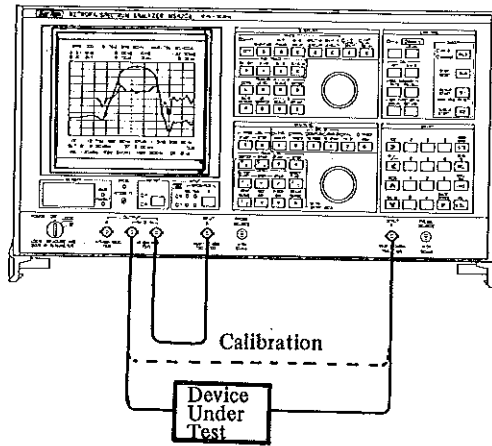

Fig. 3.3 Magnitude Measurement Connections
- 8 Connect OUTPUT B to INPUT T directly (dotted line in Fig. 3-3) and press the **X→S** key.